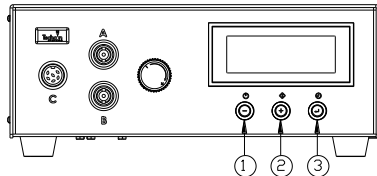

Figure 9.0
1. Press the Set button (3) to highlight the program number selection.
3. Press the Set button (3) to exit.
5.6 CYCLE COUNTER (Refer to Figure 9.0)
5.7 TO CHANGE PRESSURE UNIT DISPLAY (Refer to Figure 9.0)